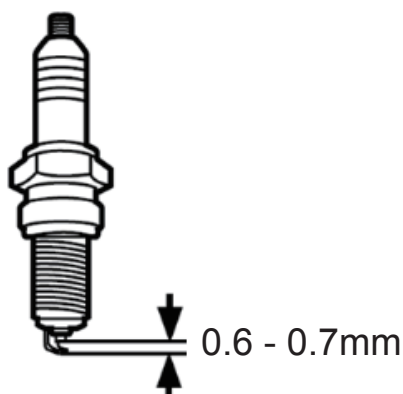

Fig. 53
7. Check the spark plug gap. It should be 0.6 - 0.7mm (Fig. 53).